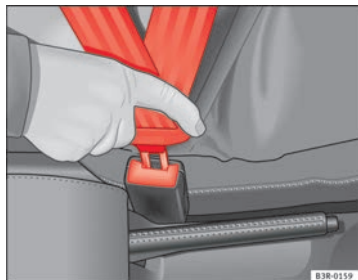

Fig. 11 Belt buckle and latch plate of seat belt
- Insert the latch into the buckle for the appropriate seat and push it down until it is securely locked with a click ⇒ **fig. 11**.